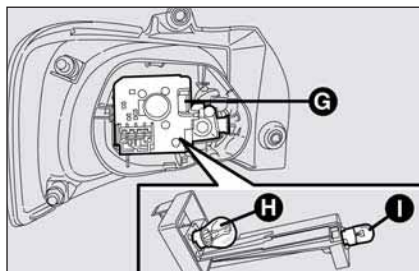

fig. 33
- ☐ press the bulb holder tab **G**-fig. 33 to remove it;
The bulbs are arranged inside the light unit as follows (**fig. 33**):